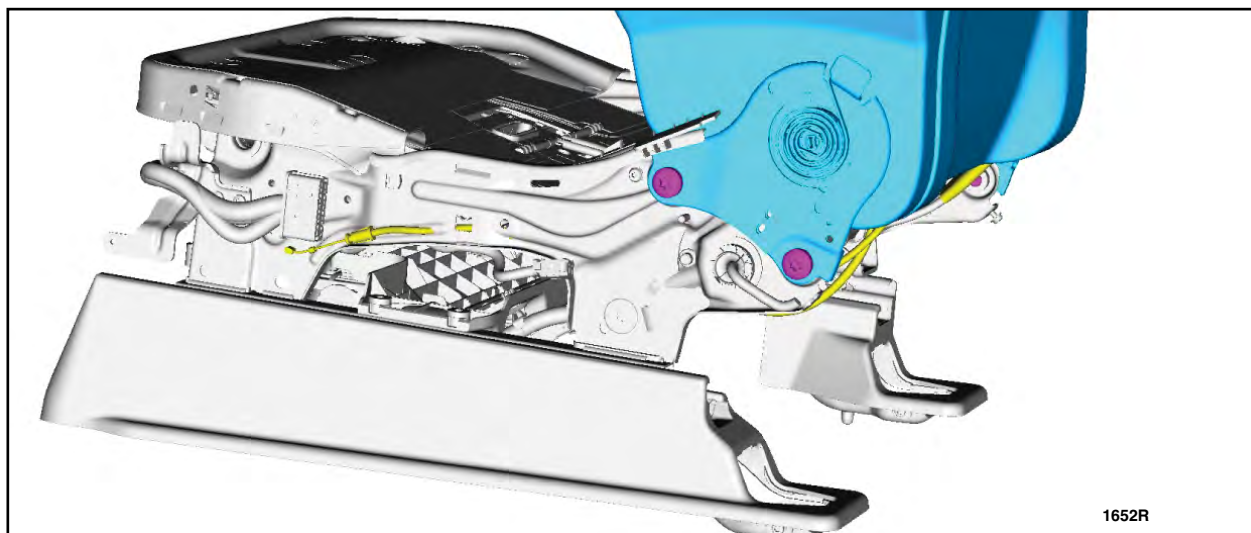

FIGURE 20
12. Remove and discard the four bolts and remove the front seat backrest. Disconnect the lumbar cable if equipped. See Figure 20.